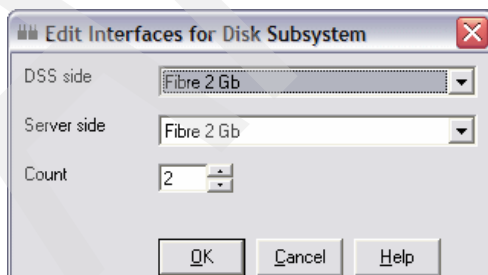

Figure 4-107 Interfaces from the DS
- c. Click the From Disk Subsystem tab. Notice that four interfaces from DS6000 are configured as the default. In our example, we use two DS6000 host ports for connecting to the System i5 platform, so we change the number of interfaces. Click **Edit** to open the Edit Interfaces for Disk Subsystem window. In the Count field, enter the number of planned DS6000 ports. Click **OK**. In our example, we insert two ports as shown in Figure 4-107.